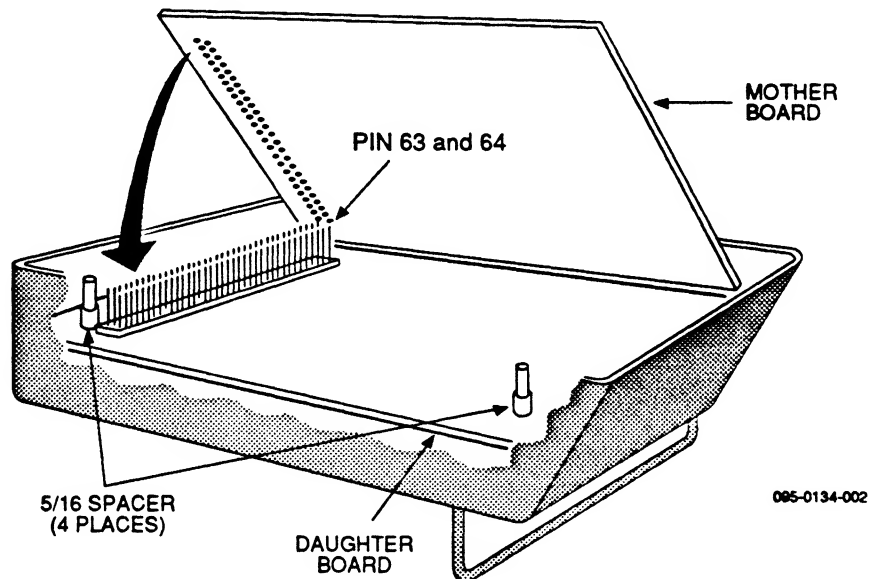

Figure 2-5. Reassembly of the P/T Adapter
1. Ensure that the 5/16 inch spacers are positioned over the standoffs (see Figure 2-5).
3. While holding the P/T adapter in one hand and the Mother board in the other, line up pins 63 and 64 on the Daughter board with the 63 and 64 pin positions on the Mother board, as shown in Figure 2-5.
4. Holding the assembly at eye level and positioning the boards as shown in Figure 2-5, carefully lower the Mother board over the Daughter board, lining the pins up with the pin holes in the Mother board.